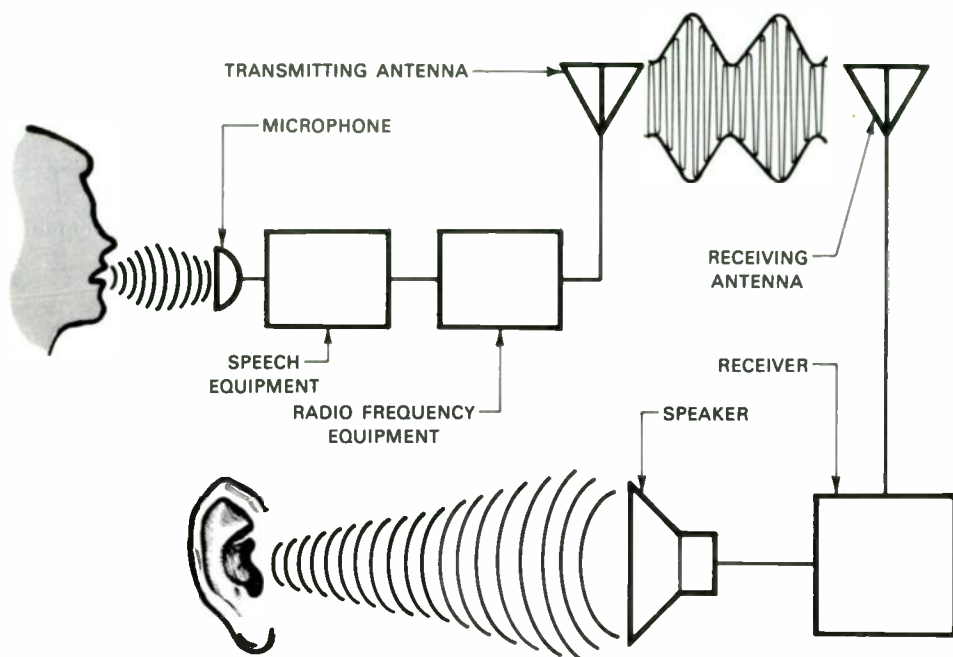

Figure 9 — Radio communication from microphone to speaker.
pulses of electric current. These electrical variations are tagged to a Radio Frequency (RF) carrier of fixed frequency. This RF frequency with its piggy-back sound information is presented to a transmitting antenna (Fig. 9). The antenna acts somewhat like an inductor; a powerful magnetic field is formed which extends for great distances. This field generates electric currents in any other conductor it crosses. The currents generated have the same vibratory nature as the field which produces them. These currents when induced into the receiving antenna of a radio set are transferred to an amplifier and boosted in strength. The sound portion is then extracted, further amplified and presented to a speaker. The speed of this whole process is